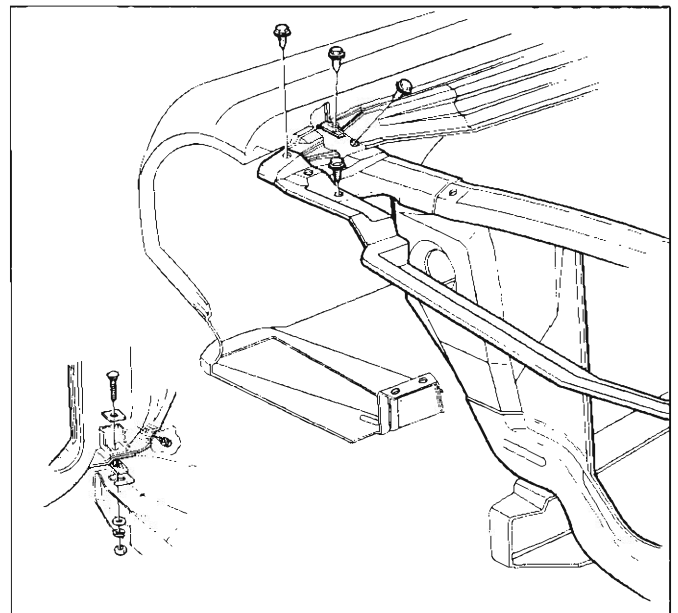

Fig. 16c—Fender to Radiator Support and Tie Bar
RADIATOR SUPPORT (fig. 16c)
1. Referring to Figure 16c: Remove two screws retaining fender to radiator support.